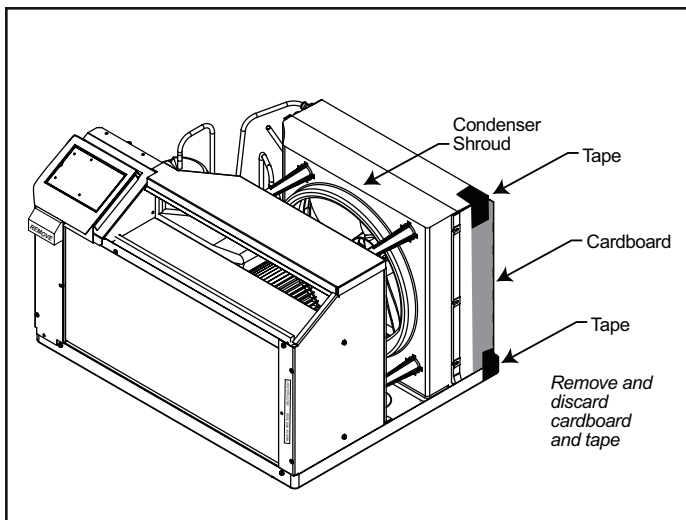

Figure 10
- A. Check the anchor screws. There should be five (5) in the "WSC" SLEEVE (two in each side and one in the top center).
STEP 4. With the help of an assistant, remove the chassis from the shipping carton. Remove the cardboard which is placed against the hairpins and is taped to the condenser shroud (see Figure 10). Be careful not to allow anything to impact against the hairpins as this may result in damage to them. **IMPORTANT:** Before installing the unit in the wall sleeve, remove the two yellow shipping blocks. One shipping block is fixed directly below the control panel on the front, left side of the unit. A second shipping block is located directly below the left side of the control panel. (see Figure 11). With the help of an assistant, lift the chassis by the basepan and slide it into the sleeve until it contacts the rear grille. With the chassis in proper position, the front edge of the basepan must extend out 4-3/4 inches from the front (side) edge of sleeve.